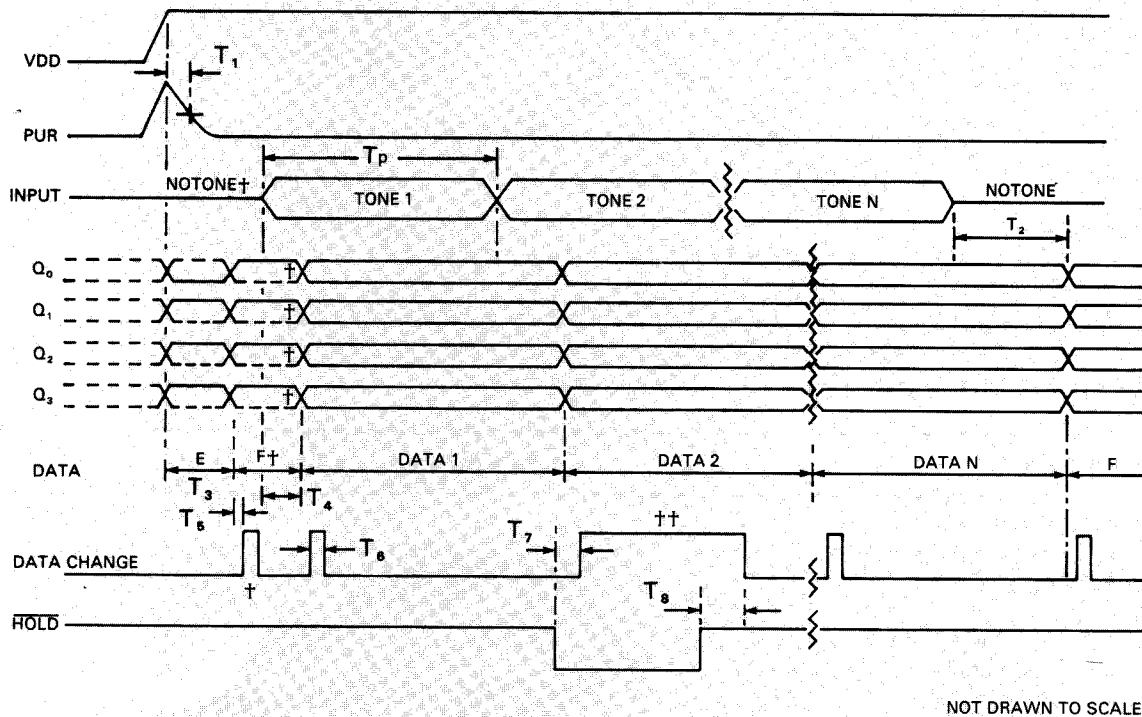

Fig. 5 FX003* Timing Diagram (See References)
- Delay from change of input (tone applied/removed) to change at $Q_0 - Q_3$ outputs (see fig. 5).